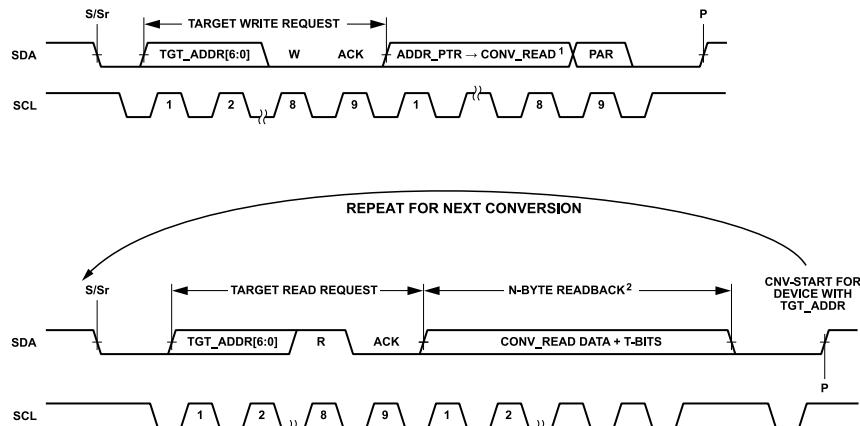

Figure 66. Triggering ADC Conversions Using CONV_READ
To trigger ADC conversions using the CONV_READ register, update the ADDR_PTR to point to any of the register addresses of the CONV_READ register (from 0x50 to 0x53). Then, perform a dummy I₂C read from the AD4062 and issue a repeated start (Sr) followed by a stop (P) at the end of the data phase. The SDA rising edge of the stop (P) triggers an ADC convert-start as shown in Figure 66. In sample mode, the convert-start trigger results in a single conversion. In burst averaging mode, the convert-start trigger results in a burst of multiple conversions which are used to generate a single averaged result (see the Modes of Operation section).